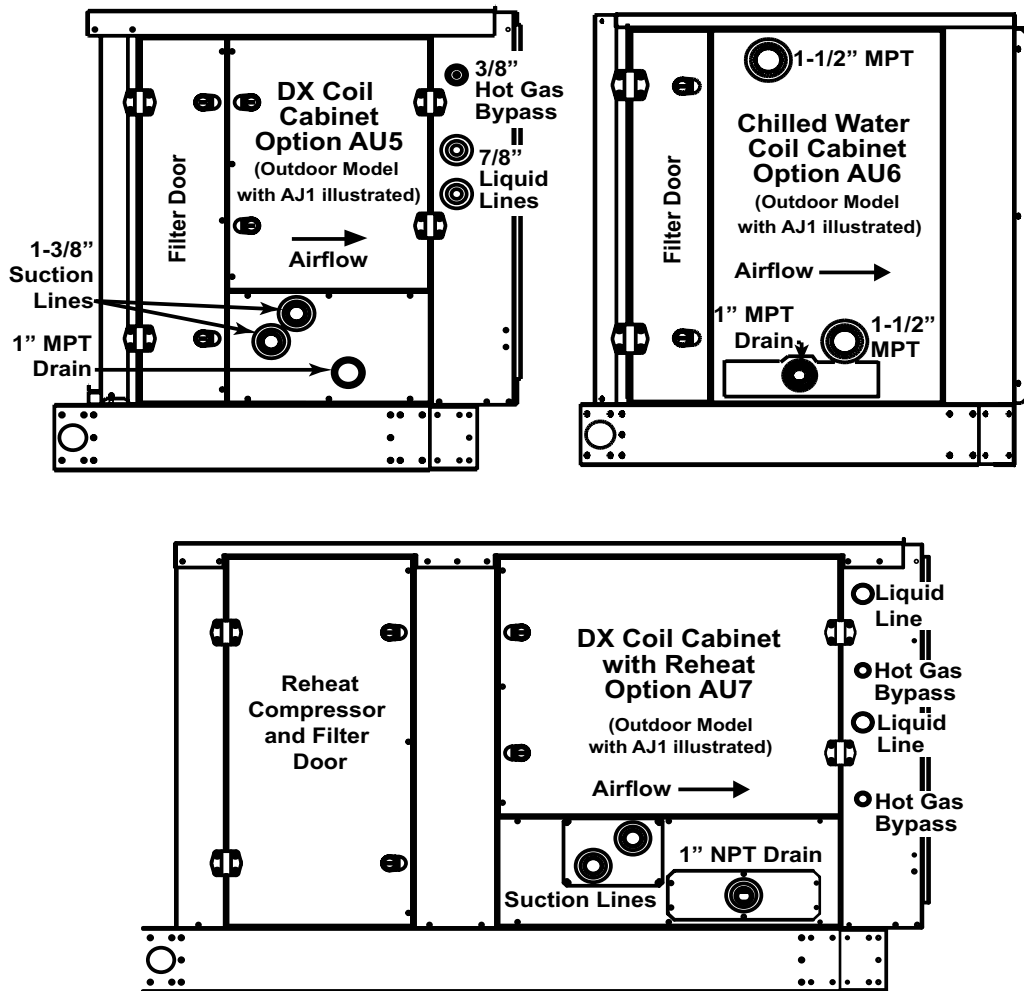

Figure 25. Cooling Coil Cabinets
- The control side is determined when facing the system discharge. AJ1 = left side controls (see Figure 25). AJ2 = right side controls.